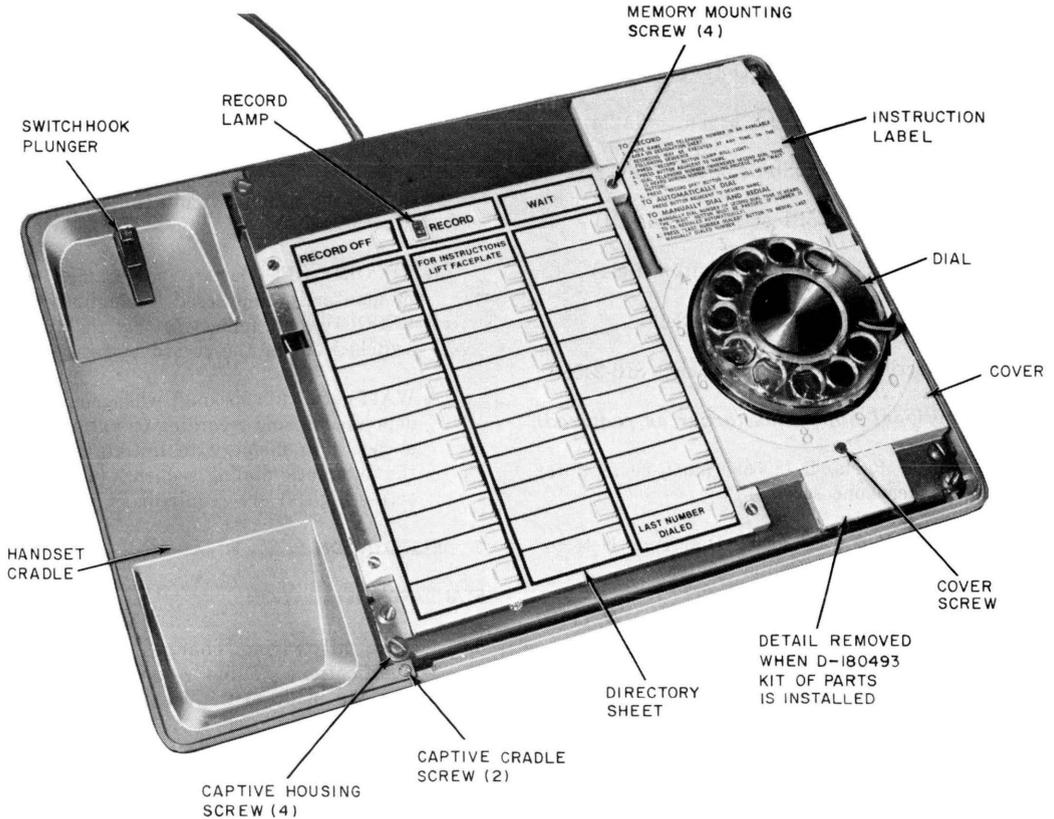

Fig. 2—Telephone Set—Faceplate and Handset Removed
2.06 Operating Features (Fig. 2):
3.05 The directory sheets (Fig. 2) fit over the buttons of the Memory and are held in place by the faceplate. Additional sheets are available in the directory sheet set, 840393672.
- (6) Break off the detail at the bottom of the cover (Fig. 2) and trim edge as required.